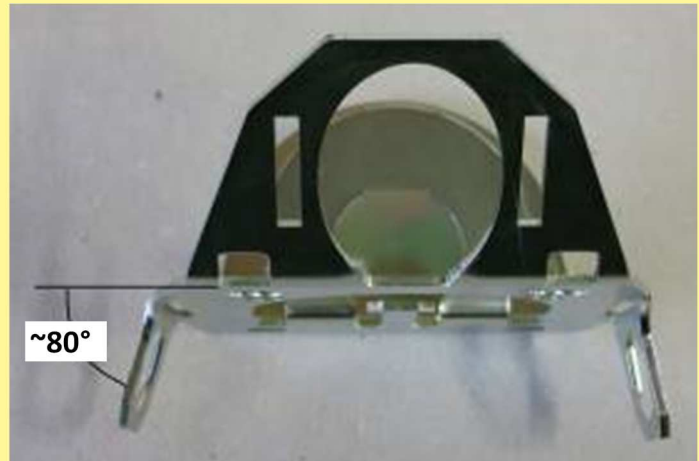

Figure 4
- To install the dispersion plates, you must bend the "tabs" on the sides towards the rear using pliers (approx. 80°, see Figure 4) and then bolt or weld them with the hexagonal shaft onto the implement.